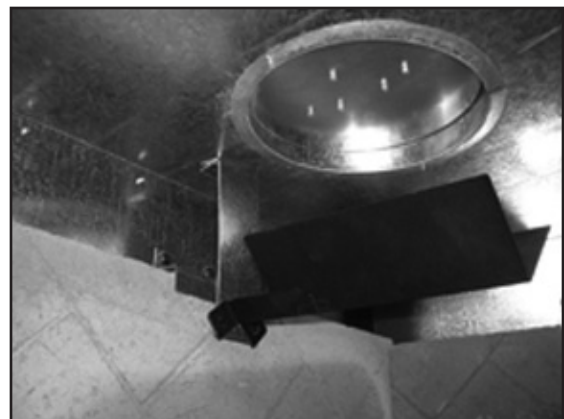

Figure 2
1. Look inside fireplace opening and locate (2) screws in roof of interior firebox. Remove screws and position Downdraft Diverter as shown in Figure 2. Attach Diverter with (2) screws removed earlier.
3. INSTALL DOORS AS SHOWN IN FIGURE 2.